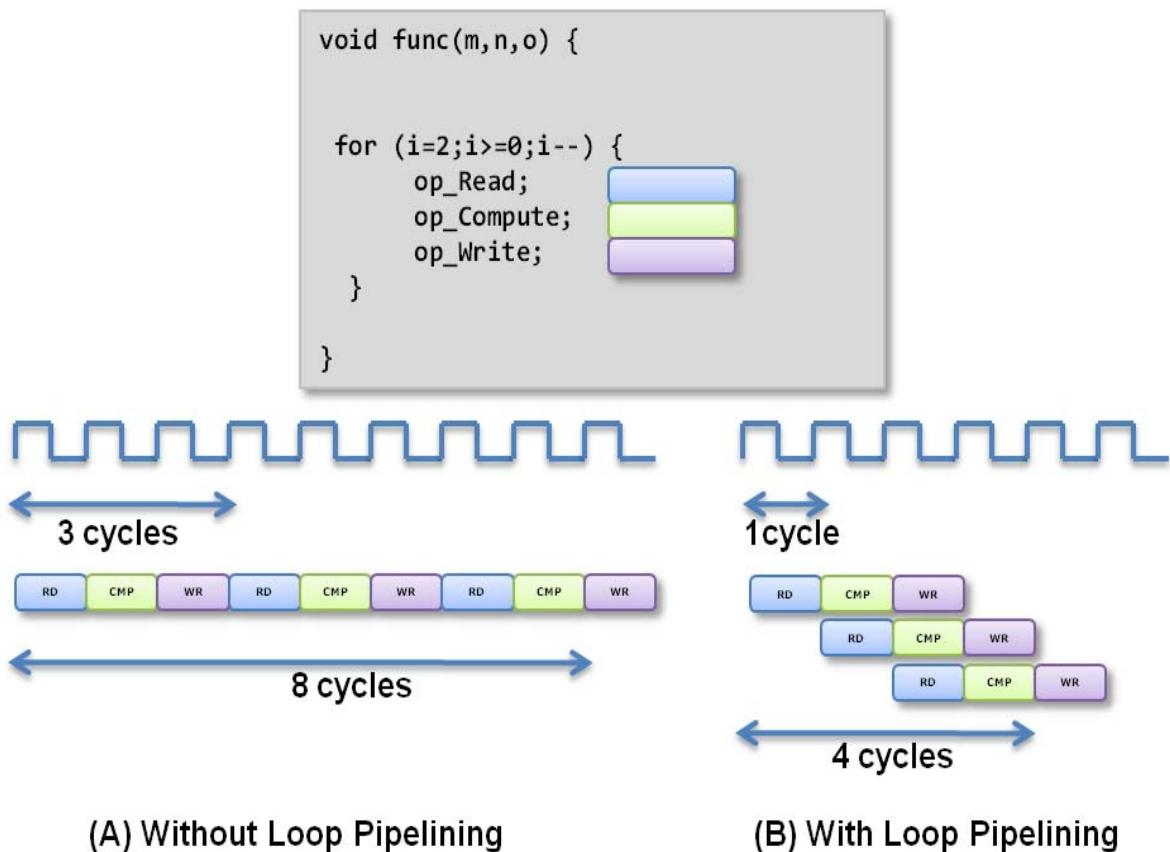

Figure 1-61: Loop Pipelining
Loop pipelining allows the operations in a loop to be implemented in a concurrent manner as shown in Figure 1-61. The default sequential operation is shown in Figure 1-61 (A) where there are 3 clock cycles between each input read (II=3) and it requires 8 clock cycles before the last output write is performed.
In the pipelined version of the loop, shown in Figure 1-61 (B), a new input sample is read every cycle (II=1) and the final output is written after only 4 clock cycles: substantially improving both the II and latency while using the same hardware resources.